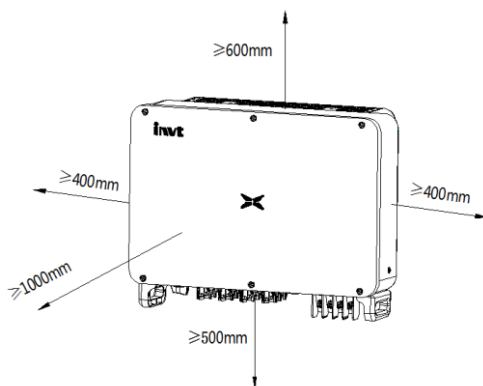

Fig 4.4 Installation spacing of inverter
(3) When installing multiple inverters, a certain distance shall be reserved between the inverters, as shown in Figure 4.4. At the same time, sufficient distance shall be reserved between the upper and lower parts of the inverter to ensure good heat dissipation.